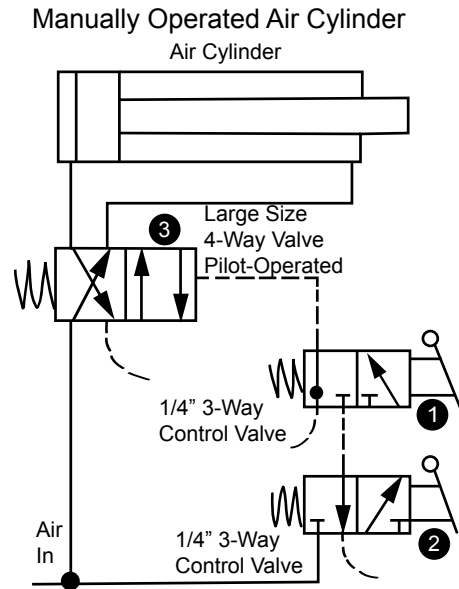

Figure 3. 2-Hand Manual Operation of Air Cylinder.
**Figure 3.** The preferred method of 2-hand control on an air cylinder is to use a large 4-way valve, pilot-operated, for directional control of the cylinder. Two small 3-way air valves, 1 and 2, control pilot pressure to the main valve.
Because of the compressibility of air, the circuit of **Figure 3** is considered to be better and safer than other circuits, which place Valves 1 and 2 directly in the cylinder lines, one connected to each cylinder port. In the latter case, if only one valve should be actuated, a reactionary load might cause the cylinder to move out of position, or a vertically mounted cylinder might drop under force of gravity.